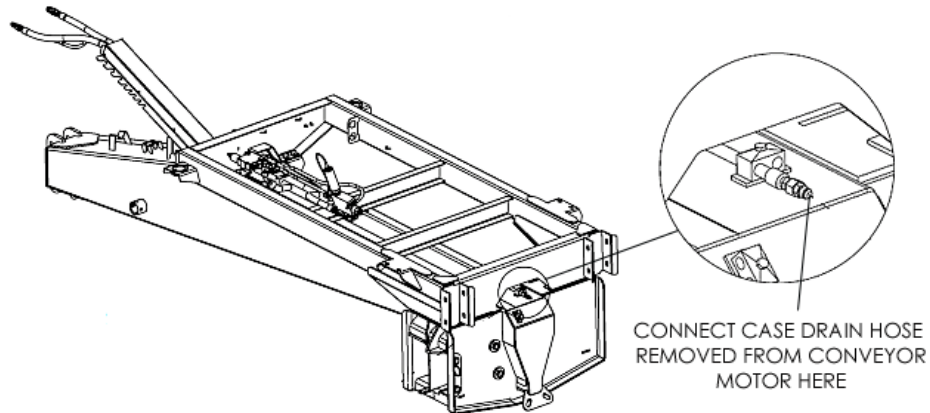

Figure 16 - Connect to Trailer
4. Connect newly removed case drain hose to trailer case drain hose (Figure 16). Refer to *Hydraulic Torques Chart* for torque requirements.